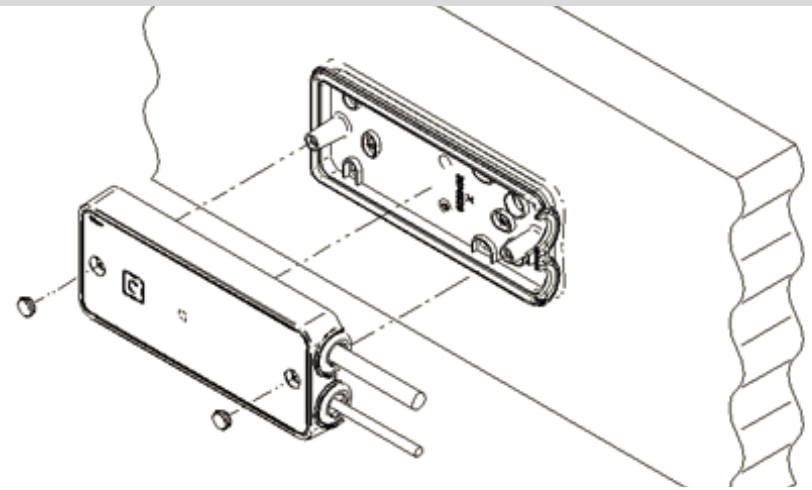

Fig. 7 - In-Out Configuration
7. Make the wiring connections, as shown in the wiring diagrams Figs. 7 & 8, for the appropriate system. For surface wiring ensure rubber grommets are fitted to cable before wiring into connector blocks. For In-wall wiring remove the rear cover break out tabs and feed cables through prior to wiring into connector blocks.